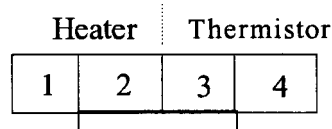

Figure 7-16 Block Incubator Board
6. If the voltage is good, measure the resistance of the Tray Heater (52 ± 6 Ohms) and the Tray Thermistor ($10\text{K} \pm 2\text{K}$ ohms at 25°C) at J2 on the BIB (see Figure 7-16).
6. If the voltage is good, measure the resistance of the Block Heater (52 ± 6 Ohms) and the Block Thermistor ($10\text{K} \pm 2\text{K ohms @ } 25^{\circ}\text{C}$) at J1 on the BIB (see Figure 7-16).